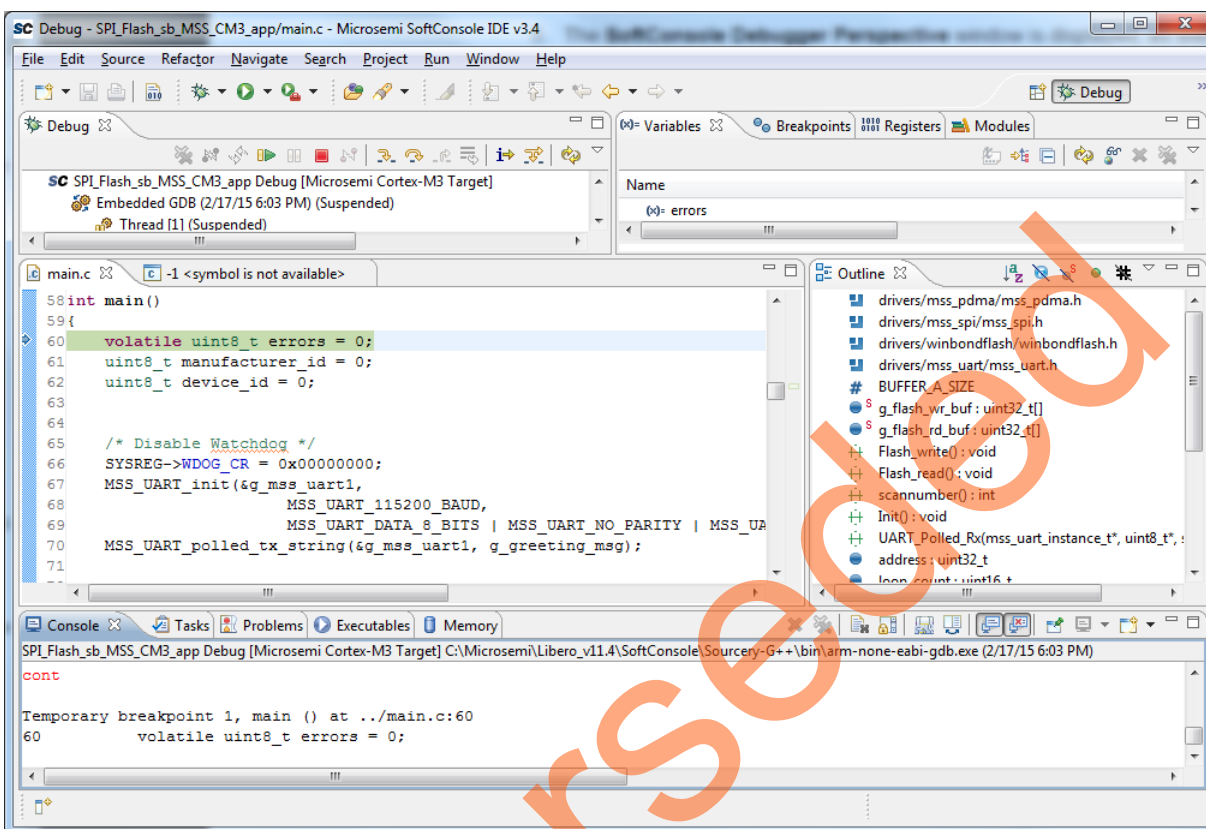

Figure 29 • SoftConsole Debugger Perspective
5. The **SoftConsole Debugger Perspective** window is displayed, as shown in Figure 29.